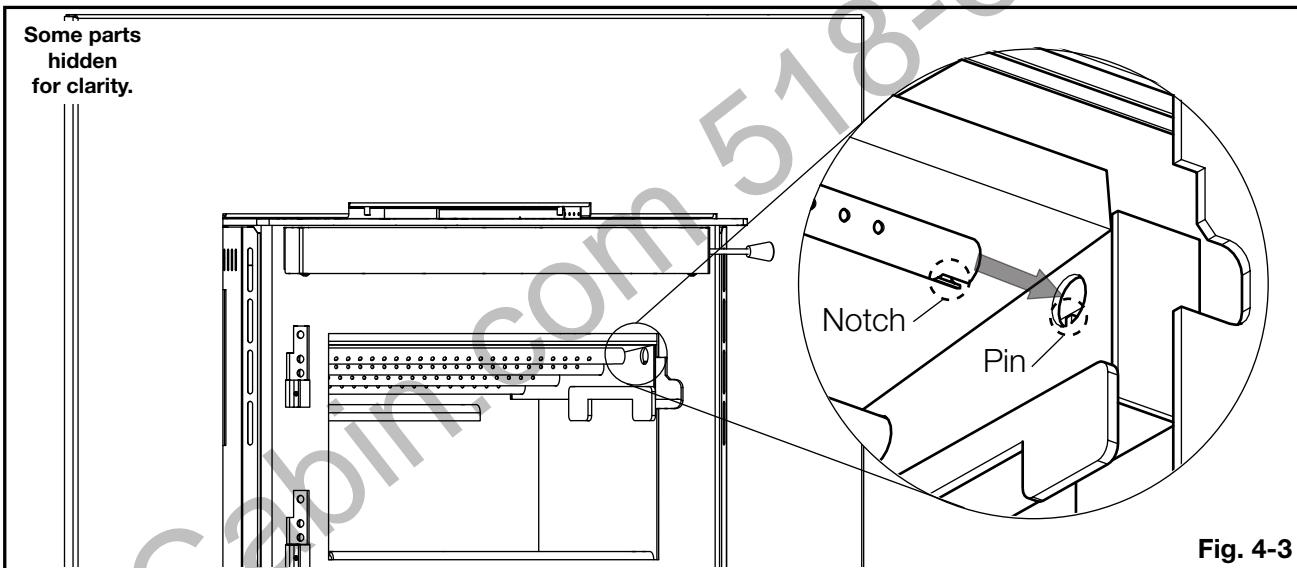

Fig. 4-3
2. Insert the right side of the secondary air tube into the hole in the **right side** of the appliance. Ensure the notch makes contact with the pin (**Fig. 4-3**).